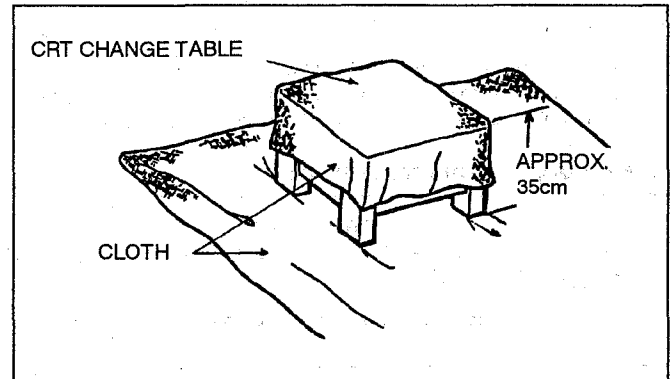

Fig. 3
1. Lift up the FRONT CONTROL PWB with control base, and raise the claws in the arrow direction marked **G** as shown in Fig.3.
- 1. Putting the CRT change table on soft cloth, the CRT change table should also be covered with such soft cloth (shown in Fig.3).